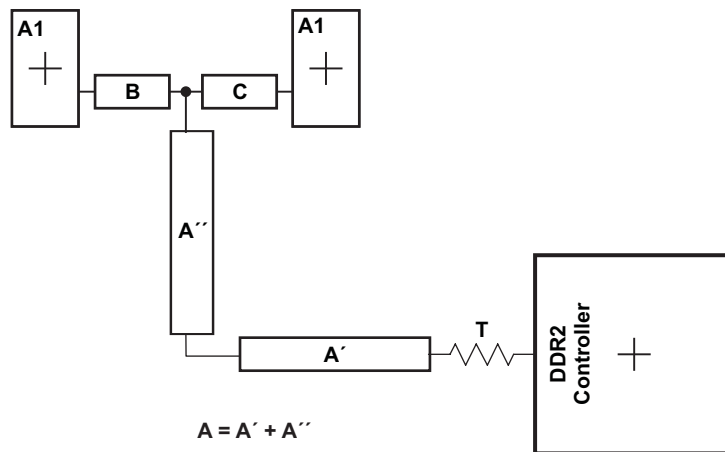

Figure 8-53. CK and ADDR_CTRL Routing and Topology
Figure 8-53 shows the topology of the routing for the CK and ADDR_CTRL net classes. The route is a balanced T as it is intended that the length of segments B and C be equal. In addition, the length of A (A'+A'') should be maximized.
- (1) The length of segment A=A'+A'' as shown in Figure 8-53.
- (2) Center-to-center spacing is allowed to fall to minimum (w) for up to 500 mils of routed length to accommodate BGA escape and routing congestion.
- (3) CACLM is the longest Manhattan distance of the CK and ADDR_CTRL net classes.